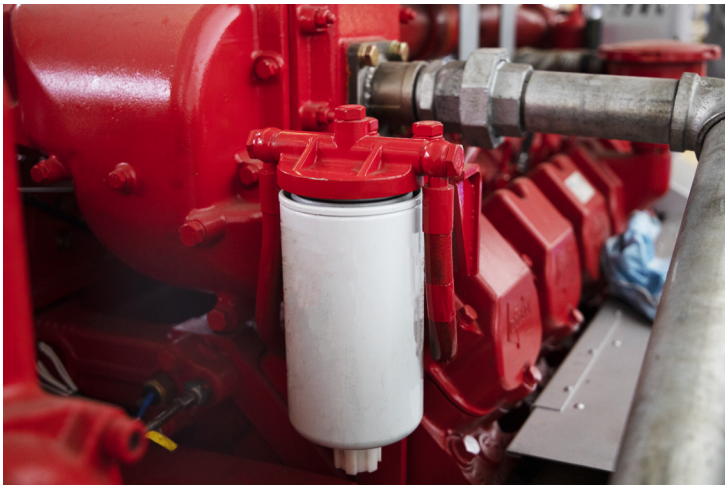

FIGURE 20 - FUEL FILTER
- Remove the fuel filter and discard. Make sure that none of the fuel filter o-rings are still attached to the diesel engine. Remove and discard all old fuel filter o-rings. SEE FIGURE 20.